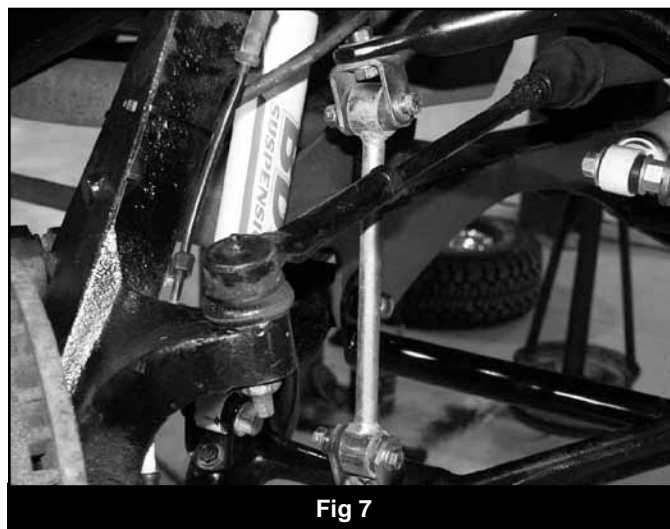

Fig 7
33. Rotate the steering tie rod 180° and install it in the new knuckle steering arm from the top down. Fasten with the OE nut and torque to 30 ft-lbs (Fig 7).
40. Install the provided hourglass bushings (SB58RB) and sleeves (45313) in the eyes of the new sway bar end links (911104). Install the links in the u-bracket mounted on the lower control arms and sway bar. The links should be mounted so that the u-shape of all the brackets can be seen from the side of the vehicle (Fig 7). Retain the links in the brackets with 3/8" x 2-1/2" bolts, nuts and 3/8" SAE washers from bolt pack #542.